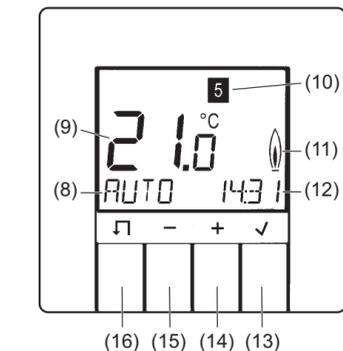

Fig. 2: Default display
Four buttons below the display are used to operate the temperature controller (Fig. 2, items (13) to (16)). In the menu, you can activate operating modes, adapt programs and make settings. If a button is not pressed for more than three minutes, the unit automatically switches back to the previous function and the default display (Fig. 2). Program 1 and AUTO mode are the preselected defaults; see "Default programs" and "Modes and setting menus (overview 1)".